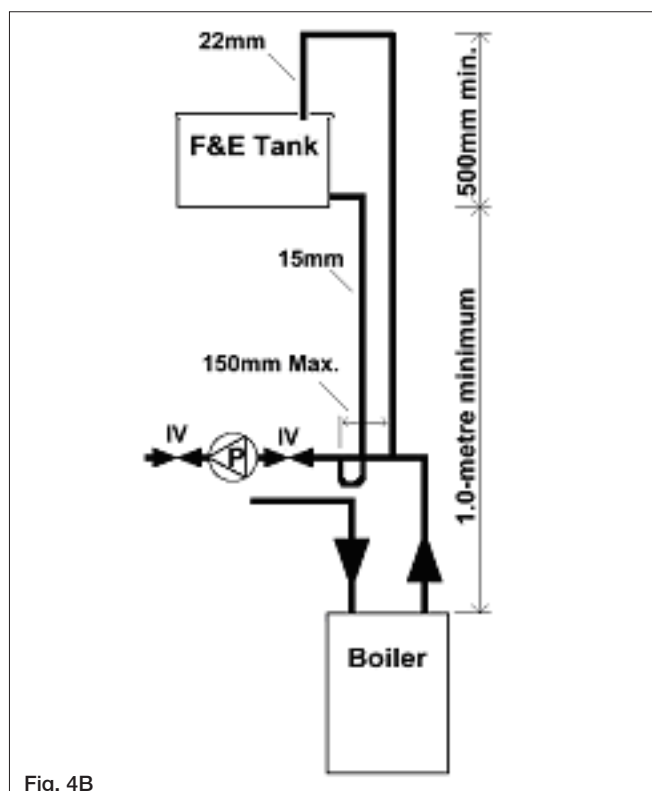

Fig. 4B
If necessary or if preferred, a close-coupled arrangement for the feed and expansion pipe work can be used as an alternative to a combined feed and vent pipe. The configuration of the close-coupled pipe work shall be as shown in figure 4B.
- The cold feed pipe must be inverted as shown in figure 4B
- The cold feed pipe must be inverted as shown in fig. 4B